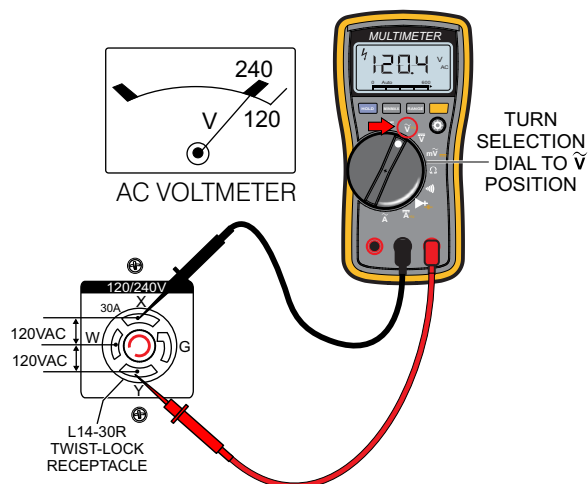
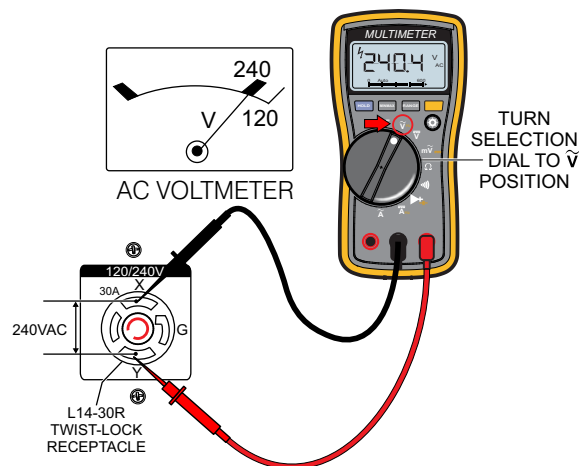

Figure 30. 120/240V L14-30R Receptacle (120V)
Figure 31. 120/240V L14-30R Receptacle (240V)
15. The L14-30R receptacle is a dual voltage receptacle (120-240 volts). Reference Figure 30 and Figure 31 to verify voltages at this receptacle.